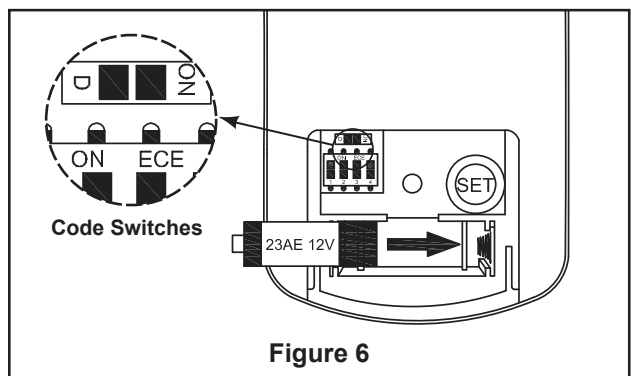

Figure 6
6. The “ON” selection on remote (J) is the light dimmable selection and is to be used with all bulbs other than CFL. The “D” selection is to be used with CFLs (as CFLs cannot be dimmed). The receiver provides the following protective function:
- Lock position: The DC motor has a built-in safety feature against blade obstruction during operation. If something obstructs the fan blades the motor will stop operating after 30 seconds of interruption. Please remove obstacles and reset. (Figure 6)